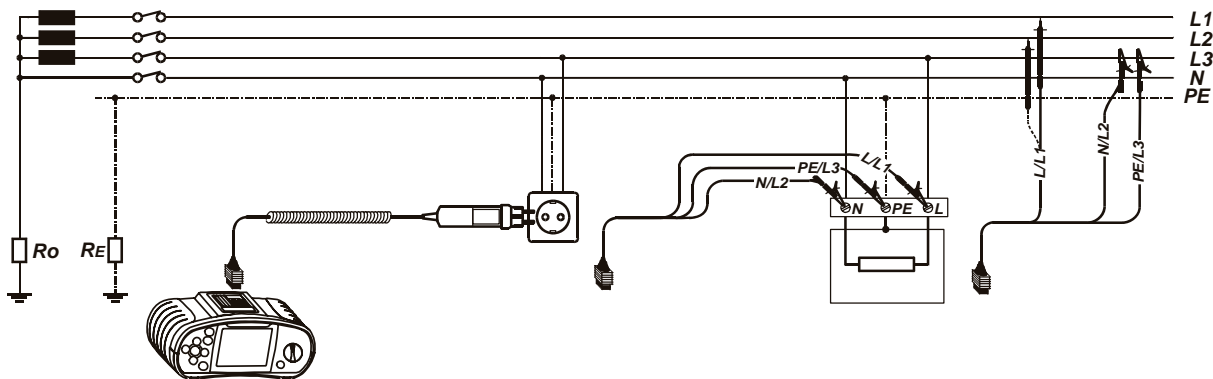

Figure 5.31: Phase-neutral or phase-phase line impedance measurement
Step 3 Connect the appropriate test leads to the instrument and follow the connection diagram shown in figure 5.31 to perform phase-neutral or phase-phase line impedance measurement. Use the **Help** function if necessary.